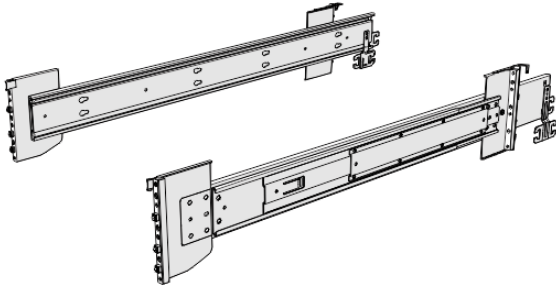

Figure 49. Support rails
1. Locate the hardware that is used to install the rails, including the M4xL6 and M5xL13 screws. Set the hardware, which is shown in Figure 49 on page 81, aside for use later in the installation process.